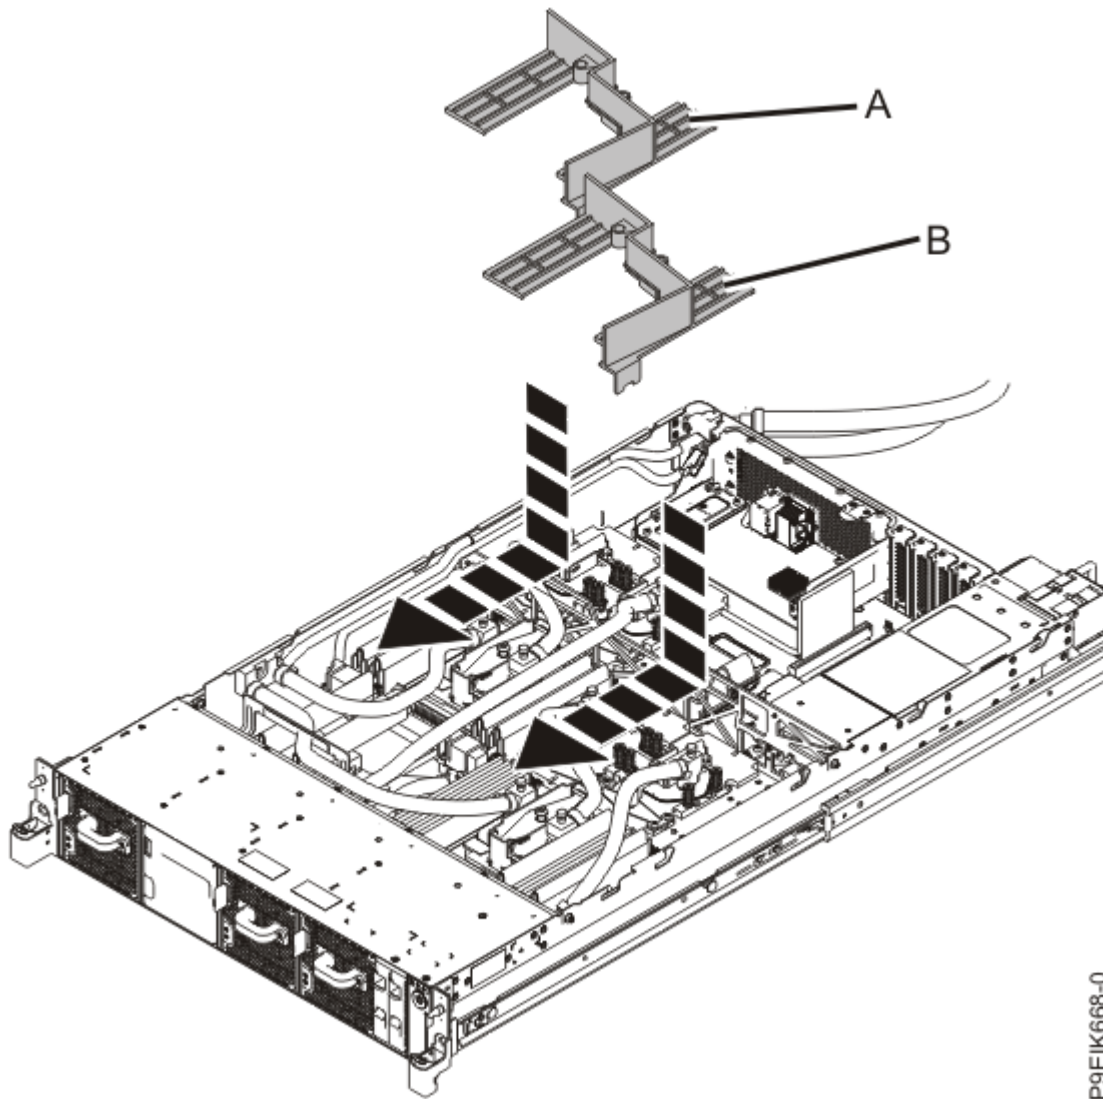

Figure 157. Replacing the memory air baffles
11. Replace the air baffles **(A)** and **(B)** as shown in Figure 157 on page 171. Carefully move the baffles around the hoses.